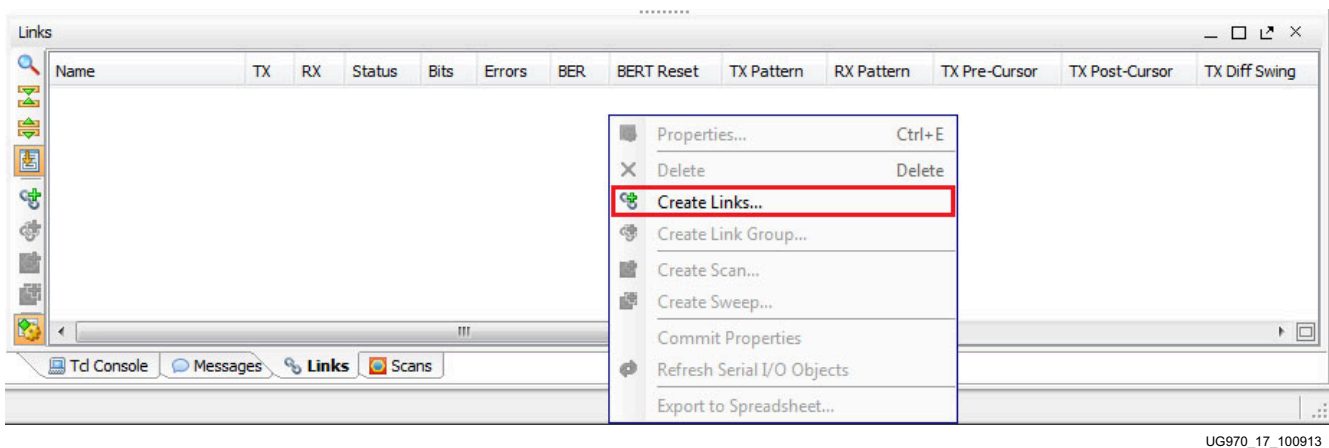

Figure 1-17: Serial I/O Analyzer - Create Links...
- To view the GTH transceiver operation, click **Layout > Serial I/O Analyzer**. In the Links window, right-click and select **Create Links** or press the **Create Links** button. The **Auto-detect links** button can also be used to have the tools automatically scan for any links that are connected and currently linked. (Figure 1-17).